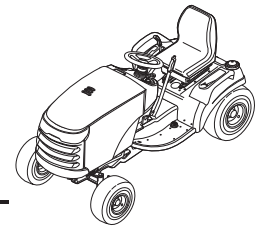

**Figure 12. Sliding Bracket Gauge Wheel Adjustment**
1. Remove the nylock wing nut (A, Figure 12) from capscrew (C). Slide out capscrew (C) from gauge wheel bracket (B). Change position of gauge wheel assembly to desired height.
2. Insert capscrew (C) through gauge wheel bracket (B) and gauge wheel assembly (D). Tighten nylock wing nut (A). Repeat Steps 1 & 2 for all gauge wheels.